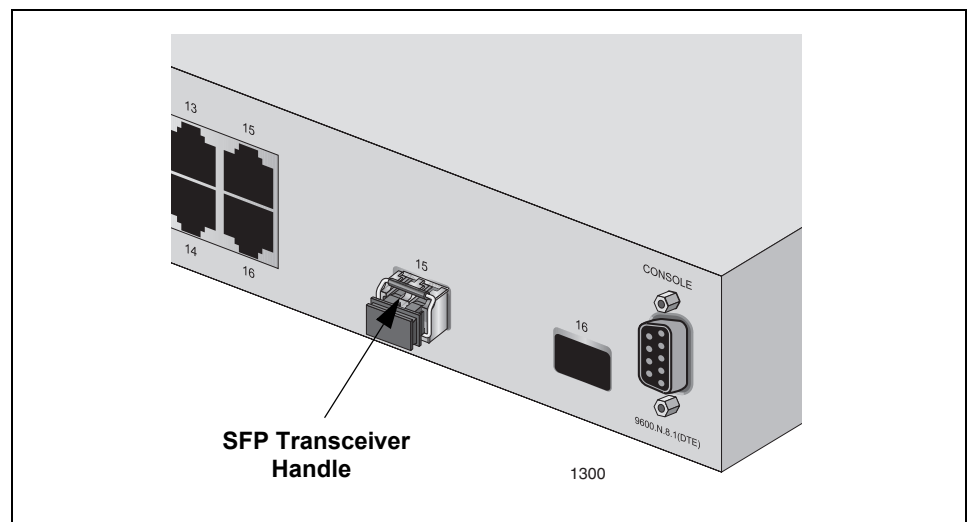

Figure 13. Positioning the SFP Handle in the Upright Position
- Verify that the handle on the transceiver is in the upright position, as shown in Figure 13. This secures the transceiver and prevents it from being dislodged from the slot.